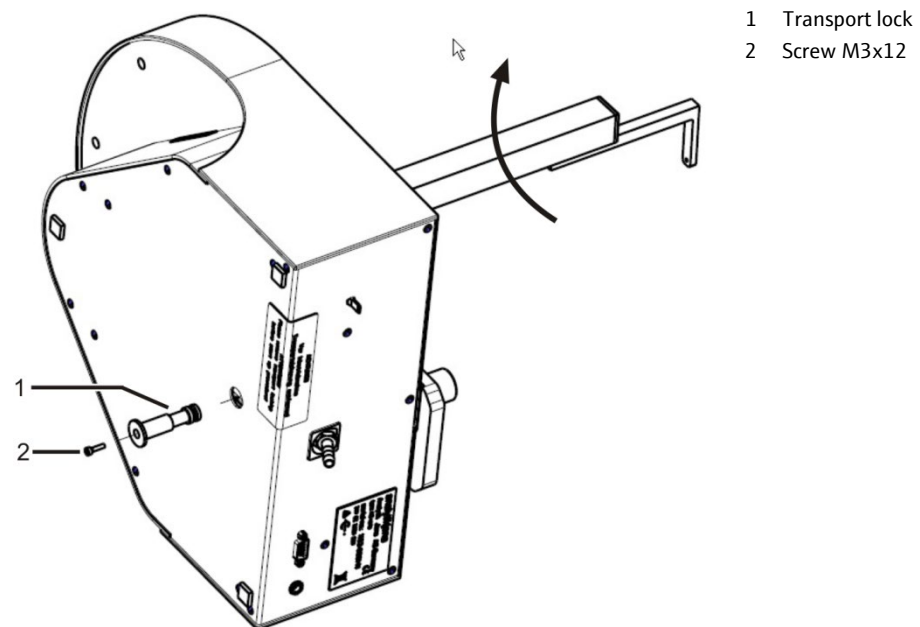

Fig. 40 Transport lock on autosampler AS vario
1. Place the autosampler on the side as shown in Fig. 40.
4. Bolt the screw (2 in Fig. 40) with the Allen wrench.